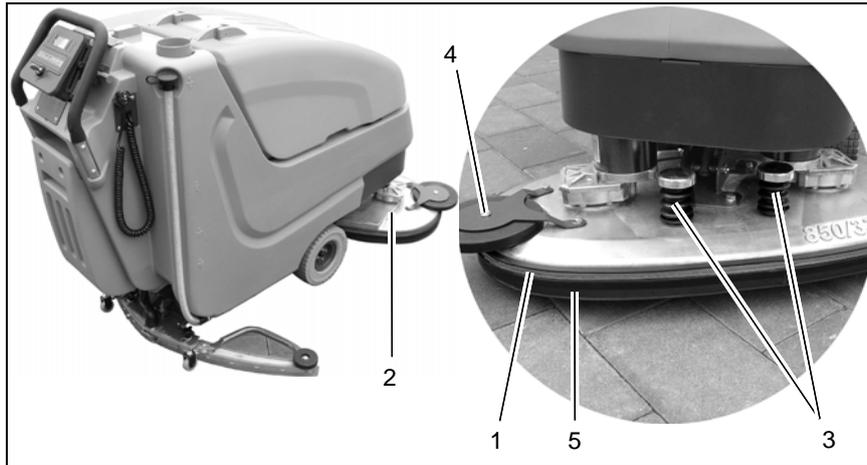

Fig.10
Clean brushes of the brush head (Fig. 10/2) at daily intervals or as required. Press brush ejectors (Fig. 10/3) down to remove brushes for cleaning.
1. Press brush ejectors (Fig. 10/3) down to remove old brushes.
Check deflector roller (Fig. 10/4) at weekly intervals or replace as required.
Check sealing strip (Fig. 10/5) at weekly intervals or as required. Before doing so, open toggle-type fastener (Fig. 10/1) and remove sealing strip. Proceed to mounting in inverse order.